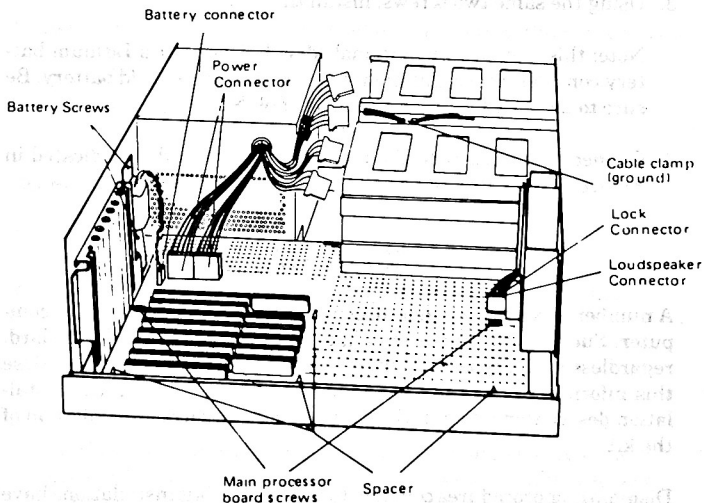

Figure 2-5
The power supply of your NCR Personal Computer possibly includes more connectors than required by the disk drives present. The power connectors not required must not be allowed to lie on the component boards, but should be held by clamps (Figure 2-5). Similar clamps are provided for unused ground connectors (Figure 2-5). Non-insulated ground connectors may, of course, be in contact with other grounded parts, such as the frame.
- Remove connections to battery and power supply (connectors near back of computer), as well as the two small connector blocks near the loudspeaker (see Figure 2-5).
- Remove the two screws indicated in Figure 2-5.
5. When replacing the board, there is no need to separate the four plastic spacers (Figure 2-5) from the board. The spacers will engage in their slots as you slide the board in.
1. Remove the battery connection (Figure 2-5). With care, this can be done without the need to remove the disk controller board.
4. Connect the battery to the main processor board as indicated in Figure 2-5 (see Procedure D).
9. Withdraw a "spare" power connector from the plastic clamp attached to the metal housing of the power supply (Figure 2-5) and connect it at the socket indicated in the separate kit description.
10. Withdraw a spare ground connector (Figure 2-5) and connect it at the point indicated in the separate kit description.
9. If a hard disk unit was already present, withdraw a "spare" power connector from the plastic clamp attached to the metal housing of the power supply (Figure 2-5) and connect it at the socket indicated in the separate kit description.